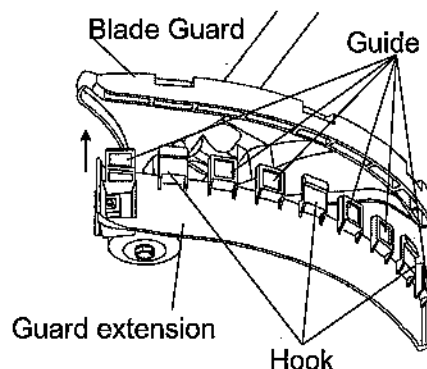
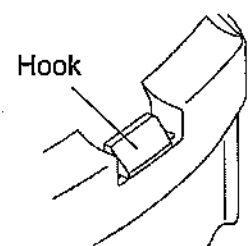

Fig.5
Fig.6
3. Enter the guide in the slot of Blade Guard on Fig. 5. Make sure place the three hooks into the position on the guard as shown on Fig. 6.